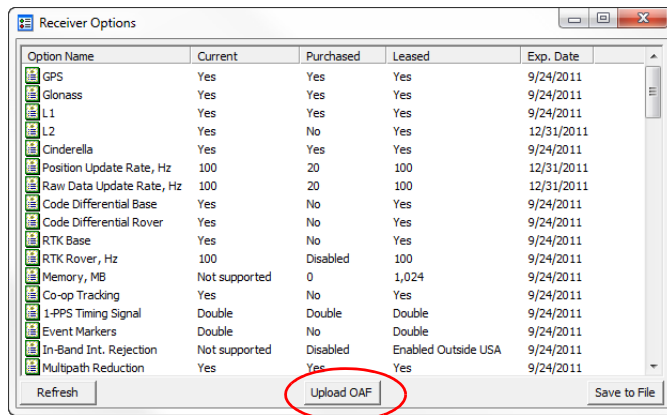

Figure 10: Receiver Options
3. Click the **Options**  icon in the main window. The **Receiver Options** window (Figure 10) displays, so you can view the current authorization options and upload new ones.
2. Click **Upload OAF** on the bottom of the **Receiver Options** window (see Figure 10).